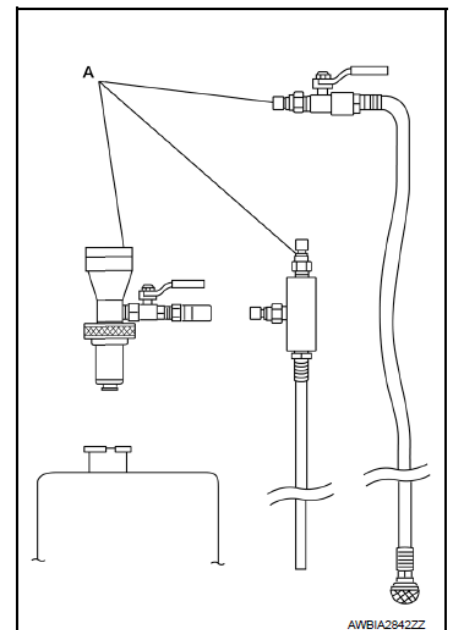

Figure 22
- Verify all (4) locking tabs are correctly seated and latched in the radiator assembly.
32. Fill the cooling system with coolant previously drained using Tool (A), following the manufacturing instructions included with the tool (Figure 22).